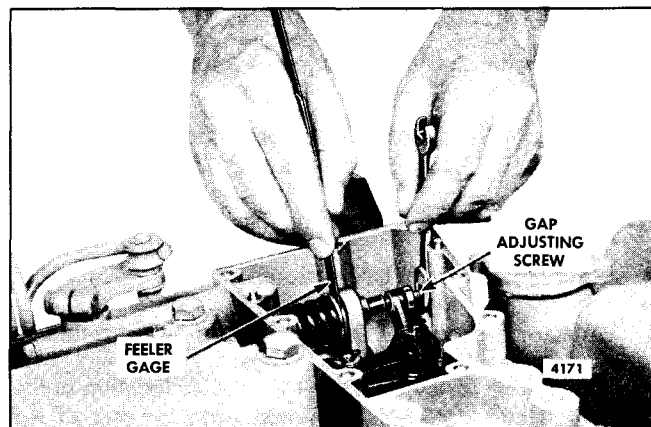

Fig. 11 – Adjusting Governor Gap
5. Insert a .006" feeler gage between the spring plunger and the plunger guide as shown in Fig. 11. If required, loosen the lock nut and turn the adjusting screw in or out until a slight drag is noted on the feeler gage.